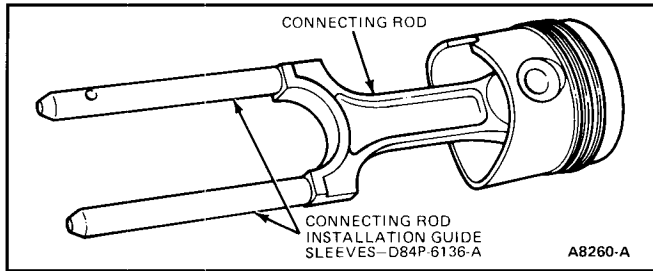

FIG. 58 Connecting Rod Installation Guide
6. Install Connecting Rod Guide Sleeves Tool D84P-6136-A or equivalent on connecting rod stud (Fig. 58).